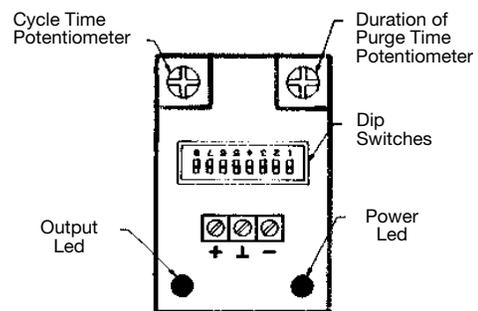
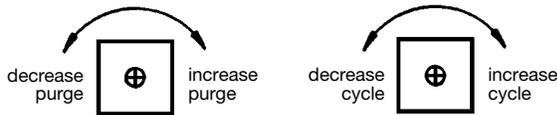

Figure 3
Figure 5
If the factory setting is insufficient, adjustment is made by a series of DIP switches in the timer. The switches are accessed by removing the cover of the timer. Figure 3 is a sketch of the timer assembly, and Figure 5 is a diagram of the DIP switches and the range of settings available.
- Install 120V AC to the timer per local code. Remove the timer cover to expose the 3 terminal strip. Connect 120V AC to the terminal strip. Attach the middle terminal to ground. These connections provide the power for the solenoid and timer. See Figure 3.
As indicated in Figure 5, there are 8 ranges to choose from. The potentiometers below the DIP switches are used to adjust the settings within the desired range. DIP switches 1-3 are used to adjust the duration. DIP switches 6-8 are used to adjust the cycle. Note that setting of time is proportional, e.g. 8 sec in the .5 s - 10 s range becomes 8 h when changed to the .5 - 10 h range. Adjustment is as follows:
5. Adjust potentiometers as labeled in Figure 5 to fine-tune to desired setting: